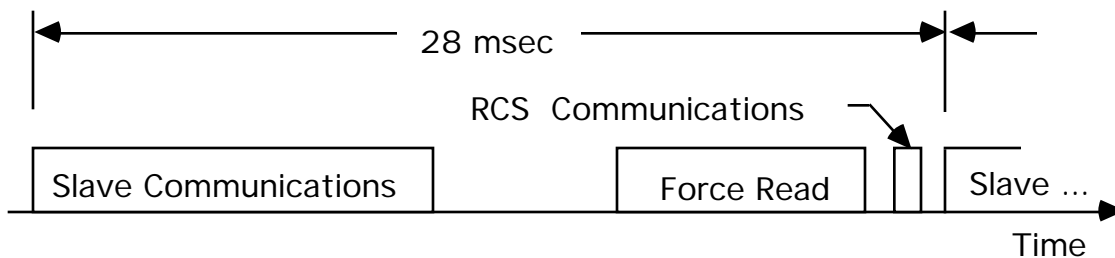

Figure 7. RCS Communication Timing.
Three functions occur during each control cycle on the communications board: (1) the force sensor is read and the data is put in common memory; (2) the RCS interboard communication takes place; and (3) the slave communication runs. The least amount of control delay occurs when these functions are sequenced in that order. The force data in common memory is updated just before the beginning of a control cycle, denoted by the RCS communications cycle. Also, the commanded joint angles arrive from the joint level during the communication cycle slightly before they are sent to VAL. See Figure 7.